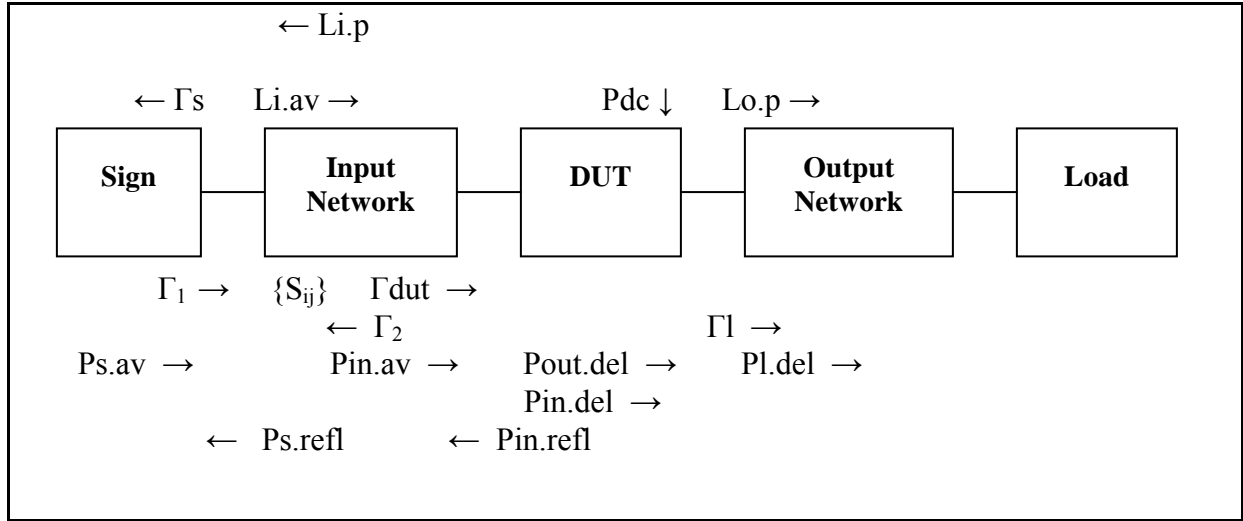

Figure 1: Power and Loss definitions of a tuned transistor
hereby we use the well known formulas [2], figure 1:
If, however, the DUT is matched for power at its input port, then $P_{in.refl}$ (Figure 1) becomes zero and equations (9) and (10) become equal.
A commonly made *wrong assumption* is that if the input network $\{S_{ij}\}$ tunes the DUT such that the measurable reflected power $P_{s.refl}$ is zero, then $P_{in.refl}=0$ (figure 1). This is only true if the input network (tuner + test fixture) is **lossless**. In a real system this is never the case, however, and in particular not if the tuning ratio (VSWR) is high.